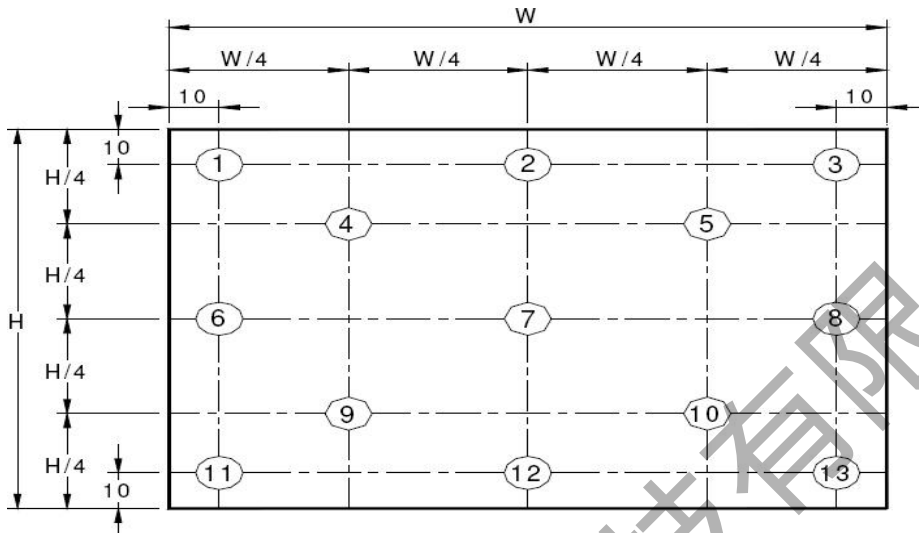

Figure 9. Uniformity Measurement Locations (13 points)
4. The White luminance uniformity on LCD surface is then expressed as : $\Delta Y = \text{Minimum Luminance of 9(or 13) points} / \text{Maximum Luminance of 9(or 13) points.}$ (see Figure 8 and Figure 9).
The White luminance uniformity on LCD surface is then expressed as : $\Delta Y5$ = Minimum Luminance of five points / Maximum Luminance of five points (see Figure 8) , $\Delta Y13$ = Minimum Luminance of 13 points /Maximum Luminance of 13 points (see Figure 9).